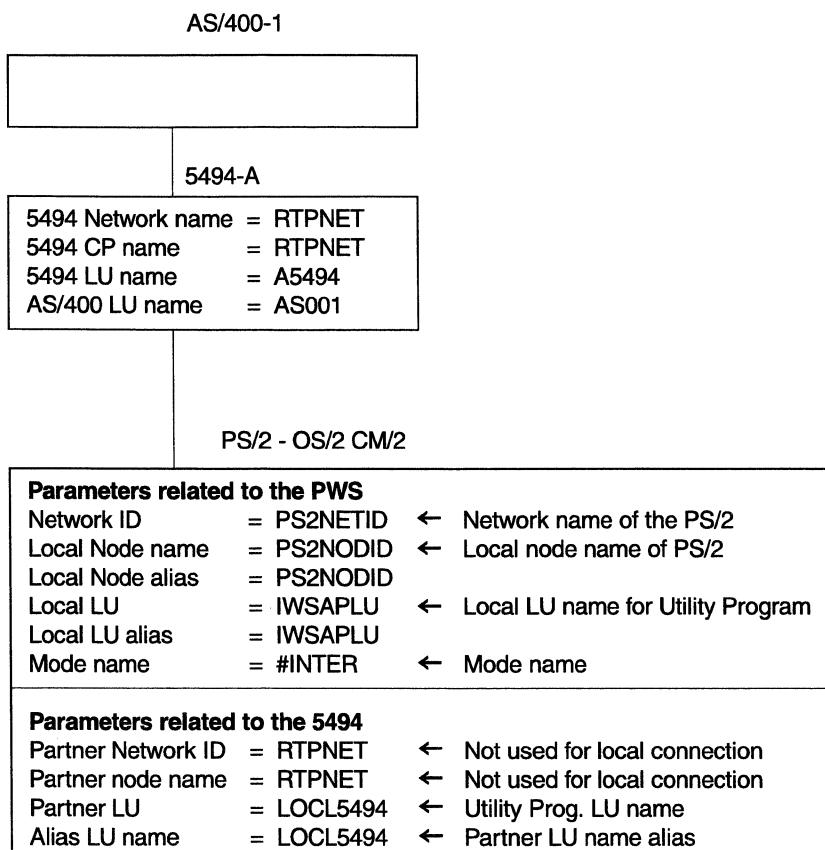

Figure 4-1. CM/2 1.1 Overview - Local Access
4. Figure 4-1 shows an overview of what parameters need to be configured in CM/2 1.1 and how the parameters in the 5494 relate to parameters in the PWS when configuring CM/2 1.1 for local attachment. To start the 5494 Utility Program in this environment, type **5494UP**.